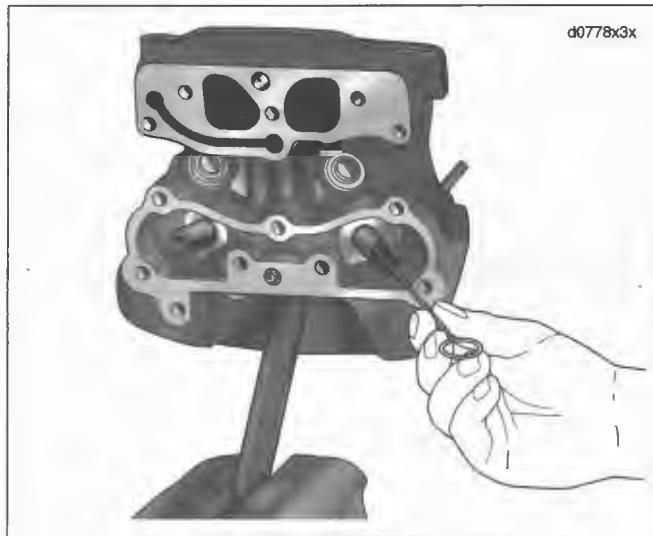

Figure 3-105. Scrubbing Valve Guide Bore
7. See Figure 3-105. Clean valve guide bore with the VALVE GUIDE CLEANING BRUSH (Part No. HD-34751-A).